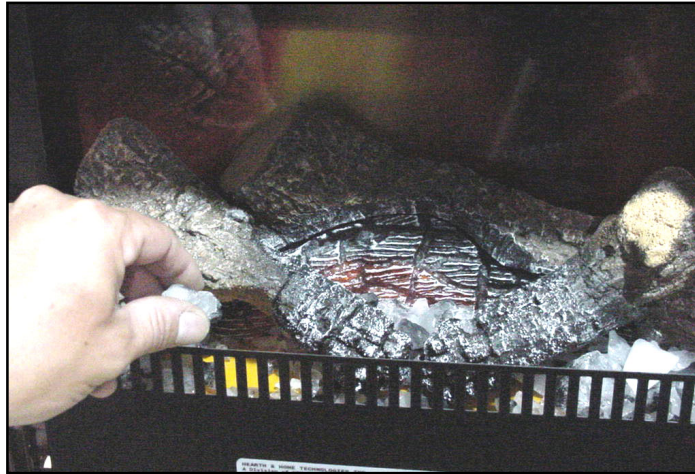

Figure 4 - Place White Rock
- b. Open the bag and place the rock over the glass to create an ember bed. You need not use the entire bag. See Figure 4.